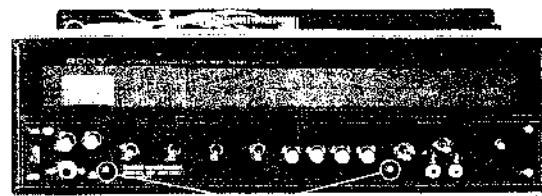

Fig. 2-12. Control circuit board removal
- Remove the two screws securing the control circuit board to the front subchassis as shown in Fig. 2-12.